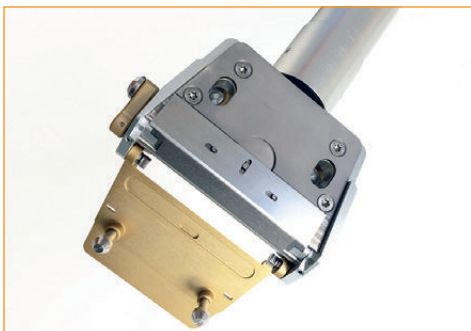

Figure 4. Insert blade
- Cautiously place the Blade in the Dermatome, as shown in Figure 4, assuring that the three slots in the blade interlock with the three pins on the Covering Plate.